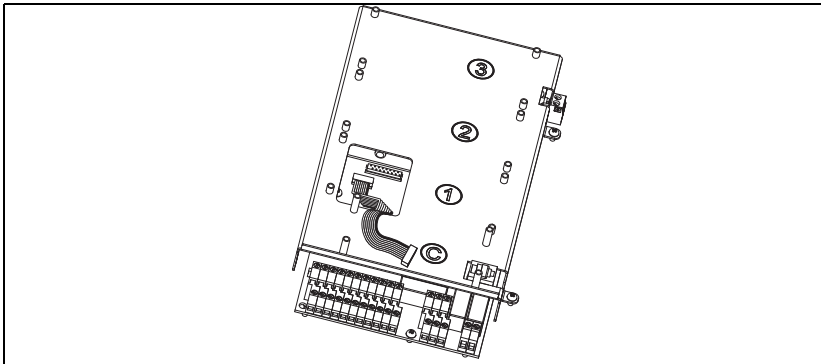

Fig. 32 Flat cable connected to the control board.
1. Connect the 8-pole flat cable to the X4 connector on the control board with the cable downwards as in Fig. 32.